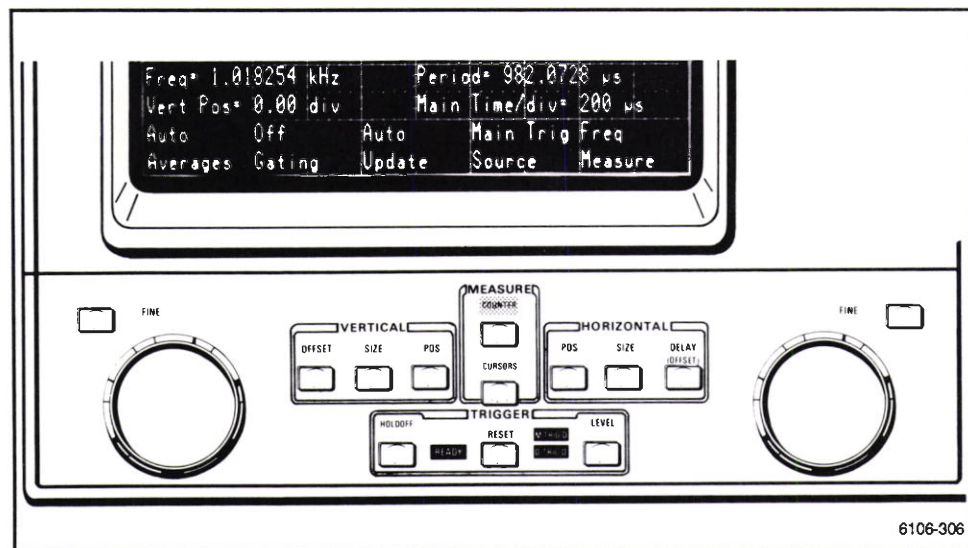

Figure 2-107. Counter/Timer menu.
3. Press the COUNTER button, located below the crt, to display the Counter/Timer menu. (See Fig. 2-107.)